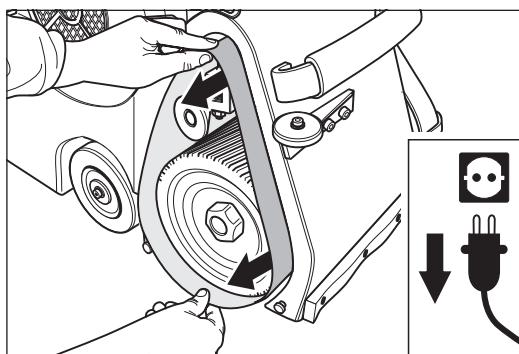

Fig. 35 Remove the sanding belt.
- 5 Remove the worn sanding belt from the tensioning roller and the sanding drum (Fig. 35).